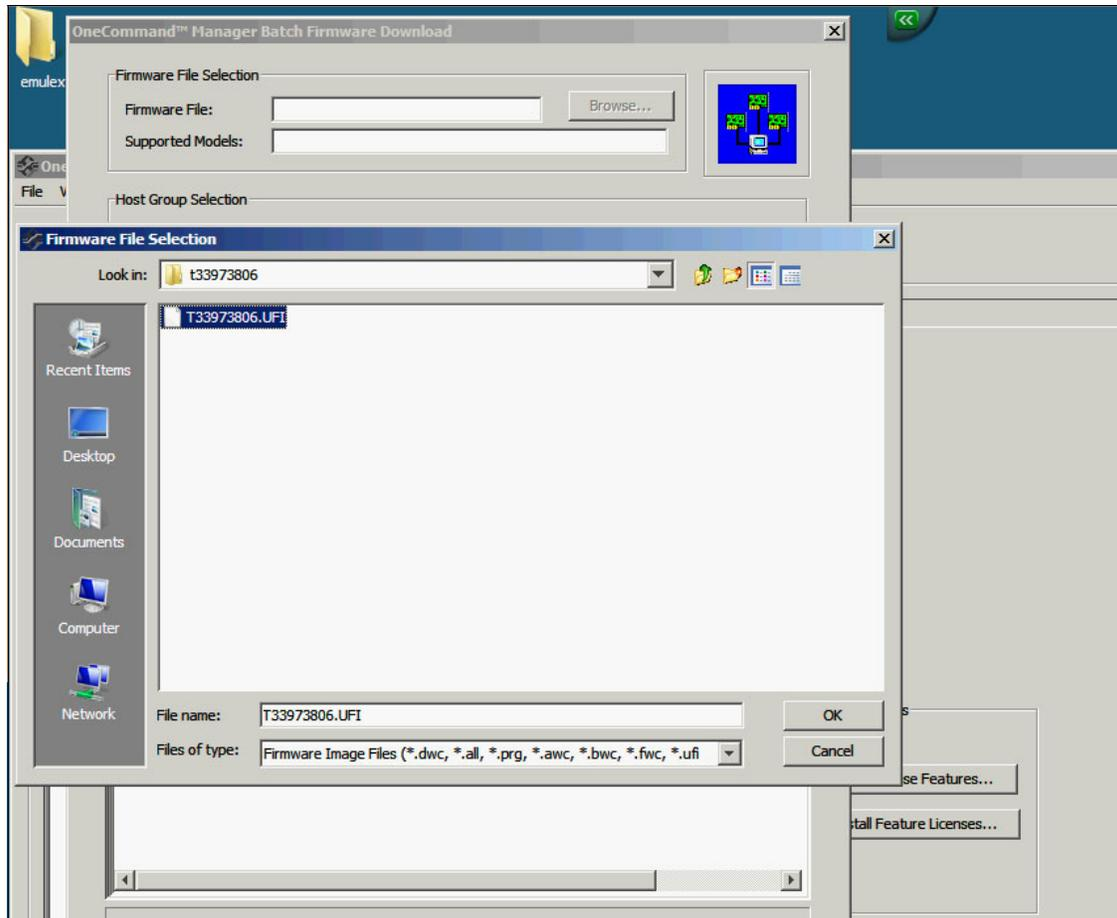

Figure 10-71 Firmware File Selection window
- a. In the OneCommand Manager Batch Firmware Download window (Figure 10-71), click **Browse**.
- b. In the Firmware File Selection window (Figure 10-71), select the **xxx.UFI** update file. For this example, we selected the **T33973806.UFI** file. Click **OK**.